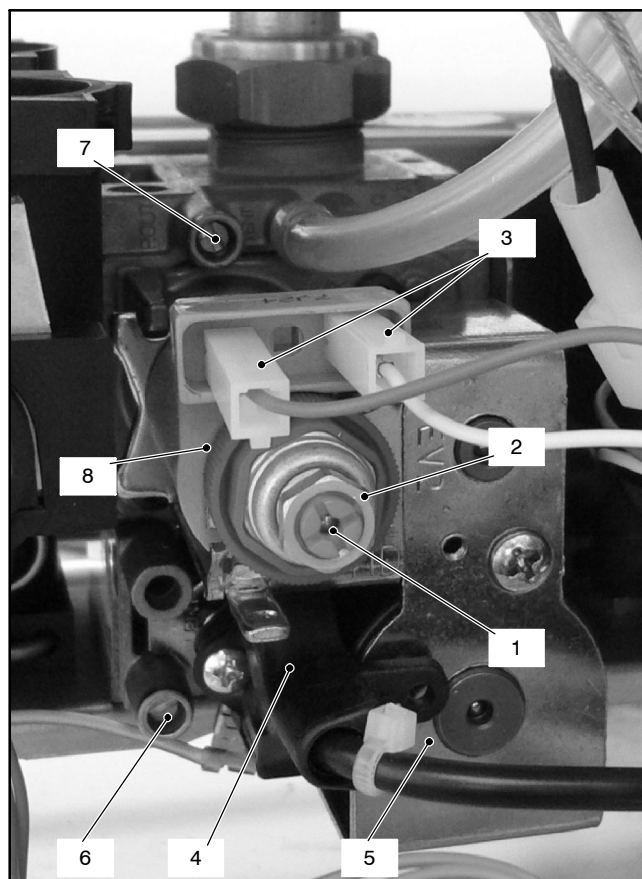

Fig. 2
11.2 Nomenclature of the parts (Fig. 2)
- 2 Open the gas valve inlet pressure test point (6 in Fig. 2) at the valve input, connect a suitable pressure gauge and check the gas pressure of the supply network.
- 4 Open the gas valve outlet pressure test point (7 in Fig. 2) and connect the gauge;
- 7 Rotate the maximum gas pressure adjustment (2 in Fig. 2) until you obtain the required pressure (by rotating clockwise the pressure increases).
- 8 Turn the boiler off and disconnect one of the two connectors (3 in Fig. 2).
- 9 Start the boiler and rotate the minimum gas pressure adjustment (1 in Fig. 2) until you obtain the required pressure (by rotating clockwise the pressure increases).